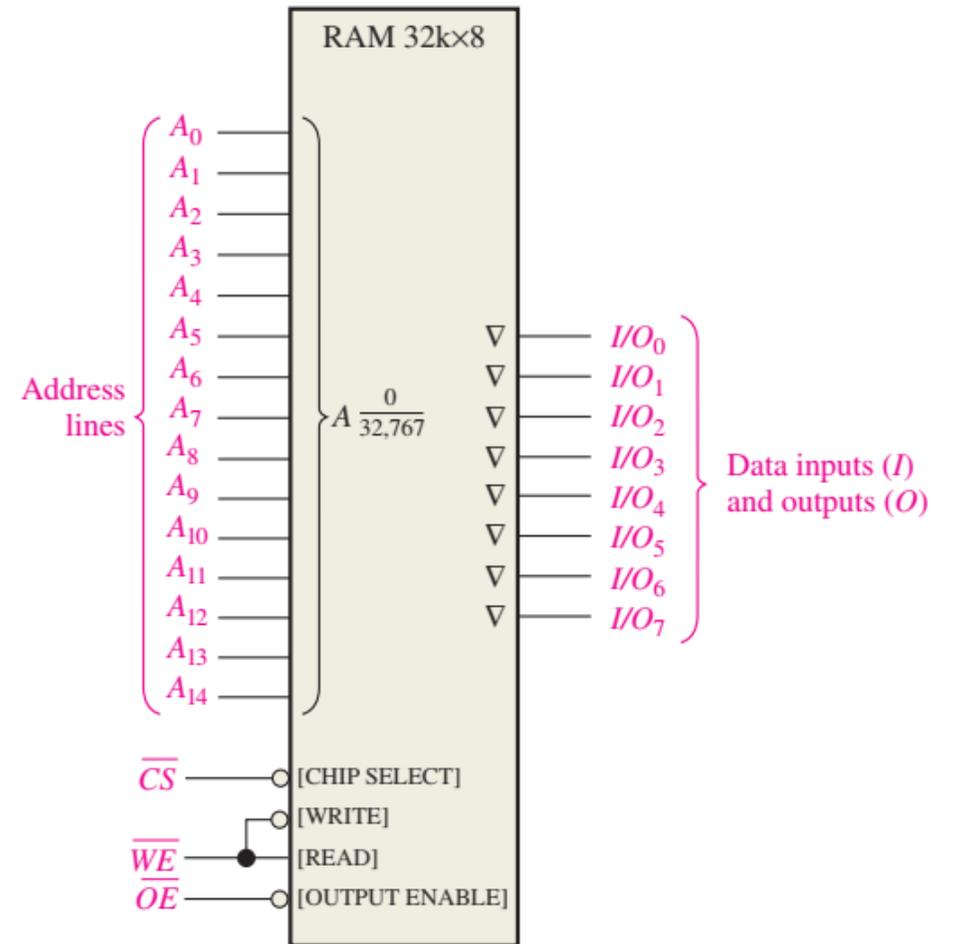

Fig. 2-7 Logic diagram for an asynchronous 32k X 8 SRAM.
- Figure 2-7 shows a logic symbol for a 32k x 8 bit SRAM memory.